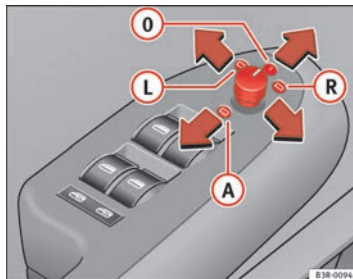

Fig. 104 Detailed view of the armrest: Adjuster knob
- Turn the adjuster knob to position ⇒ **fig. 104** **L** (left exterior mirror) or position **R** (right exterior mirror).
When reverse gear is engaged, the mirror surface tilts slightly downwards, provided the mirror control is switched to the exterior mirror on the passenger's side (knob in position **R** $\Rightarrow$ page 131, fig. 104). This provides a better view of the kerb when parking.